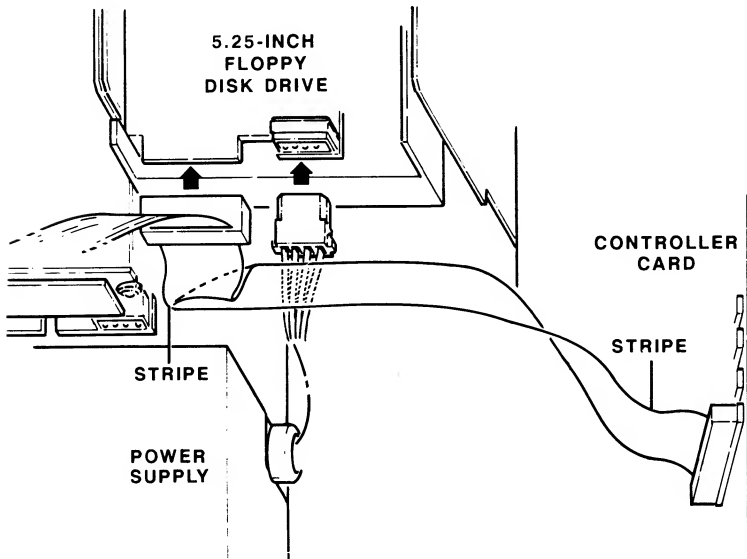

Figure 5-18. Connecting the 5.25-Inch Floppy Disk Drive
10. Connect the cable from the floppy disk to the disk controller card exactly as shown in Figure 5-18. Note the position of the stripe on the cable.
11. Refer again to Figure 5-18 and connect a cable from the power supply to the floppy disk drive.